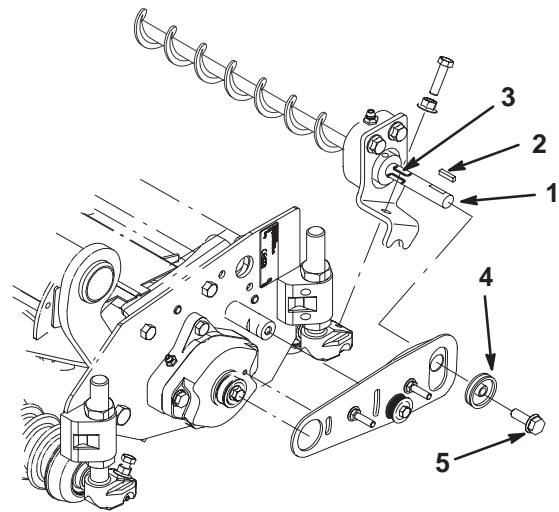

Figure 11
20. Insert square key into keyway on roller brush shaft (Fig. 11).
21. Slide pulley onto key and end of roller brush shaft (Fig. 11).
22. Apply 242–Lockite (blue) to threads of 5/16–18 x 5/8” lg. flange bolt. Secure pulley to shaft with bolt and torque to 15 to 19 ft.–lbs. (1/2” wrench) (Fig. 11).